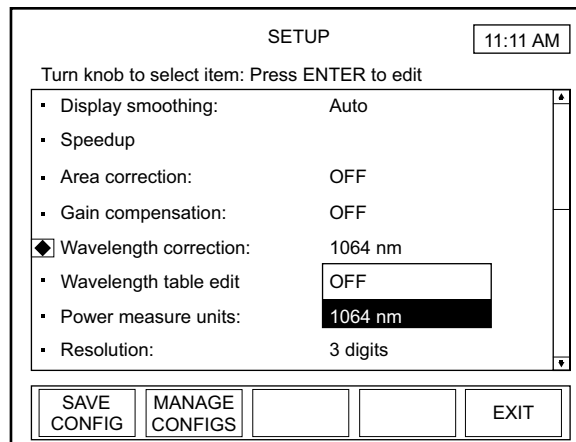

Figure 4-44. SETUP: Wavelength Correction
- Press the ENTER/SET button to display a dropdown list of available wavelengths (similar to the list shown in Figure 4-44).